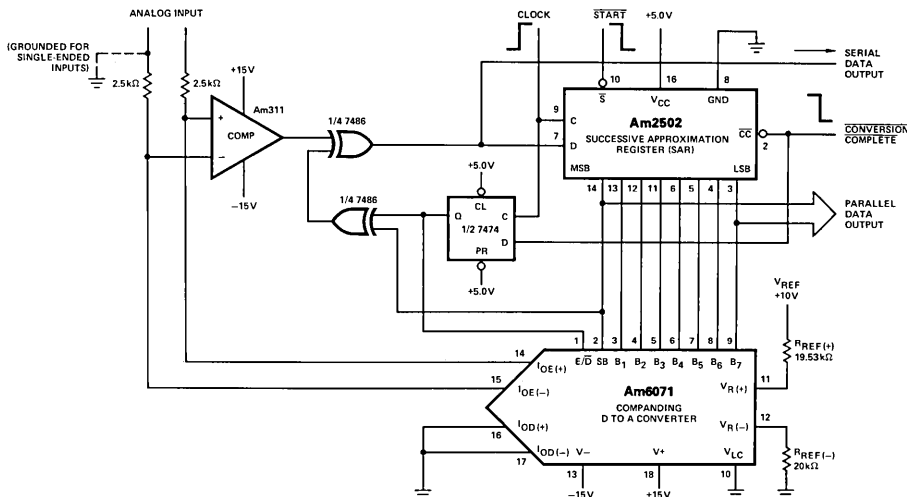

Figure 3. Detailed Encoder Connections.
in Figure 3, an offset current equal to a half step in each chord is required to obtain the correct encoder transfer characteristic. Since the size of this step varies from one chord to another, it cannot easily be added externally. As indicated in the block diagram this required half step of encode current, I_{EN} , is automatically added to the I_{OE} output through the internal chip design. This additional current will, for example, make the ideal full scale current in the encode mode larger than the same current in the decode mode by $32\mu\text{A}$. Similarly, the current levels in the first chord near the origin will be offset by $0.5\mu\text{A}$, which will bring the ideal encode current value for step 0 on chord 0 to $1.0\mu\text{A}$ with respect to the corresponding decode current value of $0.5\mu\text{A}$. This additional encode half step of current can be used for extension of the output dynamic range from 62dB to 66dB, when the converter is performing only the decode function. The corresponding decoder connection utilizes the E/\bar{D} input as a ninth digital input and has the outputs $I_{OD(+)}$ and $I_{OE(+)}$ and the outputs $I_{OD(-)}$ and $I_{OE(-)}$ tied together, respectively.
When encoding or compression of an analog signal is required, the Am6071 can be used together with a Successive Approximation Register (SAR), comparator, and additional SSI logic elements to perform the A/D data conversion, as shown in Figure 3. The encoder transfer function, shown on page 1, characterizes this A/D converter system. The first task of this system is to determine the polarity of the incoming analog signal and to generate a corresponding SB input value. When the proper START, (S), and CONVERSION COMPLETE, (\bar{C}), signal levels are set, the first clock pulse sets the MSB output of the SAR, Am2502, to a logic 0 and sets all other parallel digital outputs to logic 1 levels. At the same time, the flip-flop is triggered, and its output provides the E/\bar{D} input with a logic 0 level. No current flows into the I_{OE} outputs. This disconnects the converter from the comparator inputs, and the incoming analog signal can be compared with the ground applied to the opposite comparator input. The resulting comparator output is fed to the Am2502 serial data input, D, through an exclusive-or gate. At the same time, the second input to the same exclusive-or gate is held at a logic 0 level by the additional successive approximation logic shown in Figure 3. This exclusive-or gate inverts the comparator's outputs whenever a negative signal polarity is detected. This maintains the proper output current coding, i.e., all ones for full scale and all zeros for zero scale.